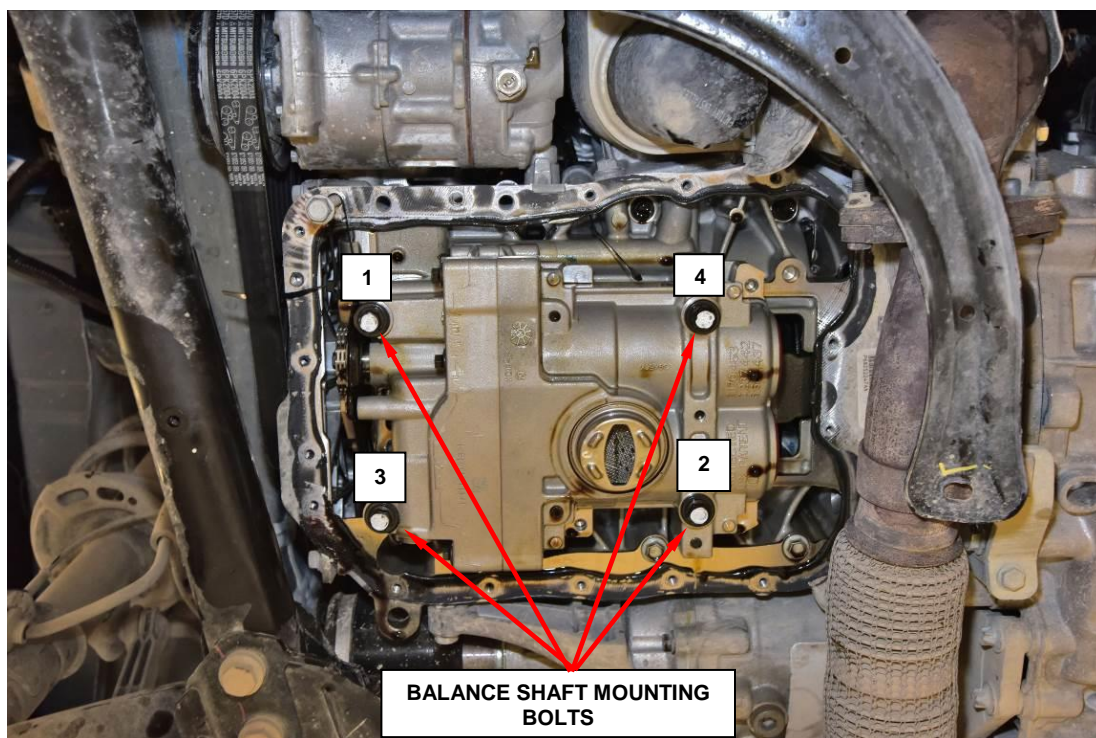

Figure 10 – Mounting Bolts
8. Remove the four balance shaft module mounting bolts (Figure 10).
5. Tighten the **NEW** balance shaft module bolts in the sequence shown below, follow the three-step torque procedure, and crisscrossing tightening the opposite bolt 1-2-3-4 an ending with a torque angle method (Figure 10).